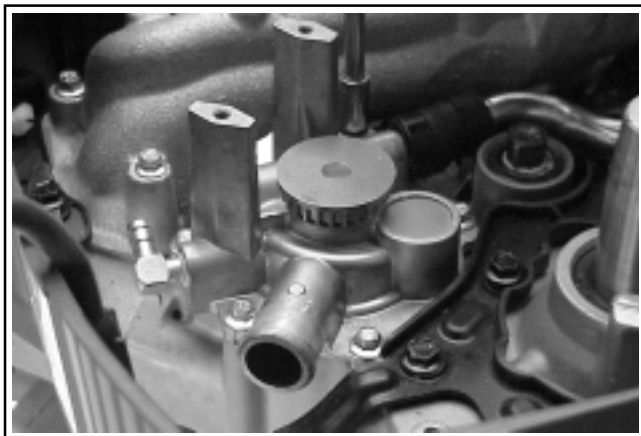

Figure 9-45. Removing the Six Water Pump Screws.
3. Remove the six screws securing the water pump to the crankcase. See Figure 9-45.